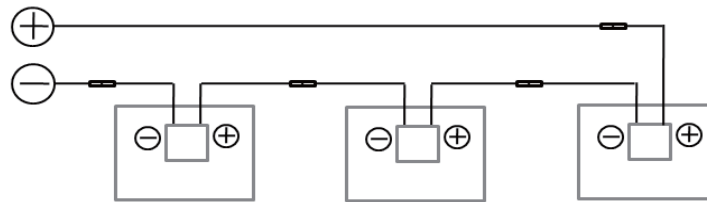

Fig. 9-1 Series Connection
- **The Direct Current (DC) generated by the PV system can be converted to Alternating Current (AC) and connected to the public power grid. Different regions may have different policies, laws and regulations to stipulate the installation and grid-connection requirements of PV systems. Therefore, during the design, installation and grid-connection of PV system, please comply with the local policies, laws and regulations.**
- **In order to ensure the normal running of the system, when connecting modules or loads, please ensure that the polarity of the cable connection is correct. If the modules are incorrectly connected, the bypass diodes and junction boxes may be damaged. PV modules can be connected in series (Fig. 9-1), in parallel (Fig. 9-2) and in series-parallel (Fig. 9-3). The number of serial or parallel connections shall be reasonably designed according to the system configuration. Also note that if the number of parallel connections  $\geq 2$ , there must be an over-current protection device on each string assembly.**